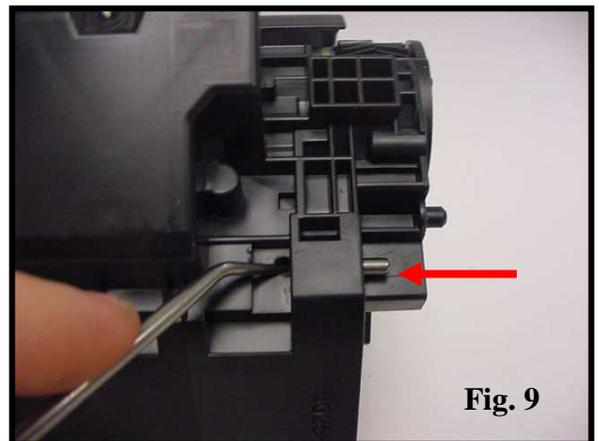

Fig. 9
9. Push the pins out from the pre drilled holes on each end of the cartridge (Fig. 9). Once the pin is exposed, you can remove it with needle nose pliers.